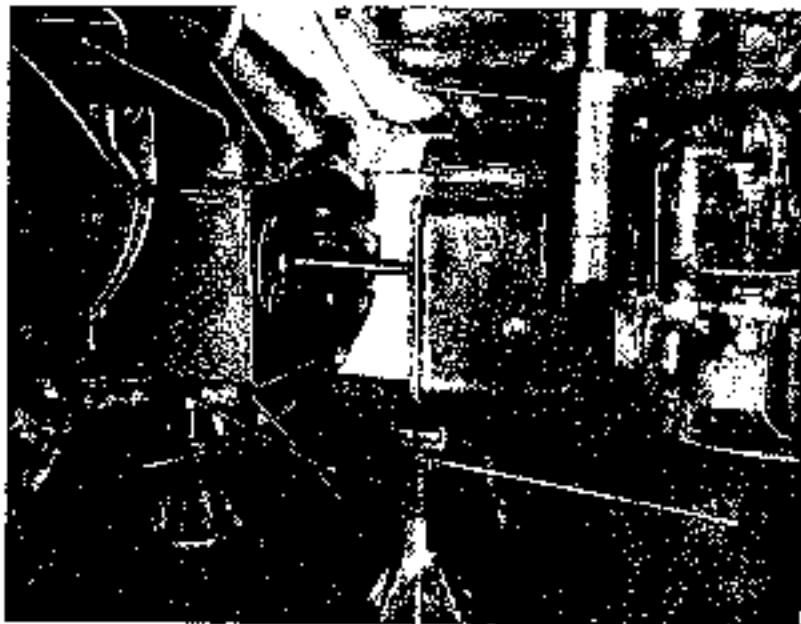

Fig. 11.
When reconditioning the clutch housing or the gearbox as well as any components housed in them disconnect the gearbox (see Fig. 11) proceeding as follows:
6. Place one plain jack under the gearbox and two jacks on jacks with a platform (Fig. 11) under the clutch cover housing. Using a heavy bar set them so the rear jack sits as to turn the gearbox slightly.